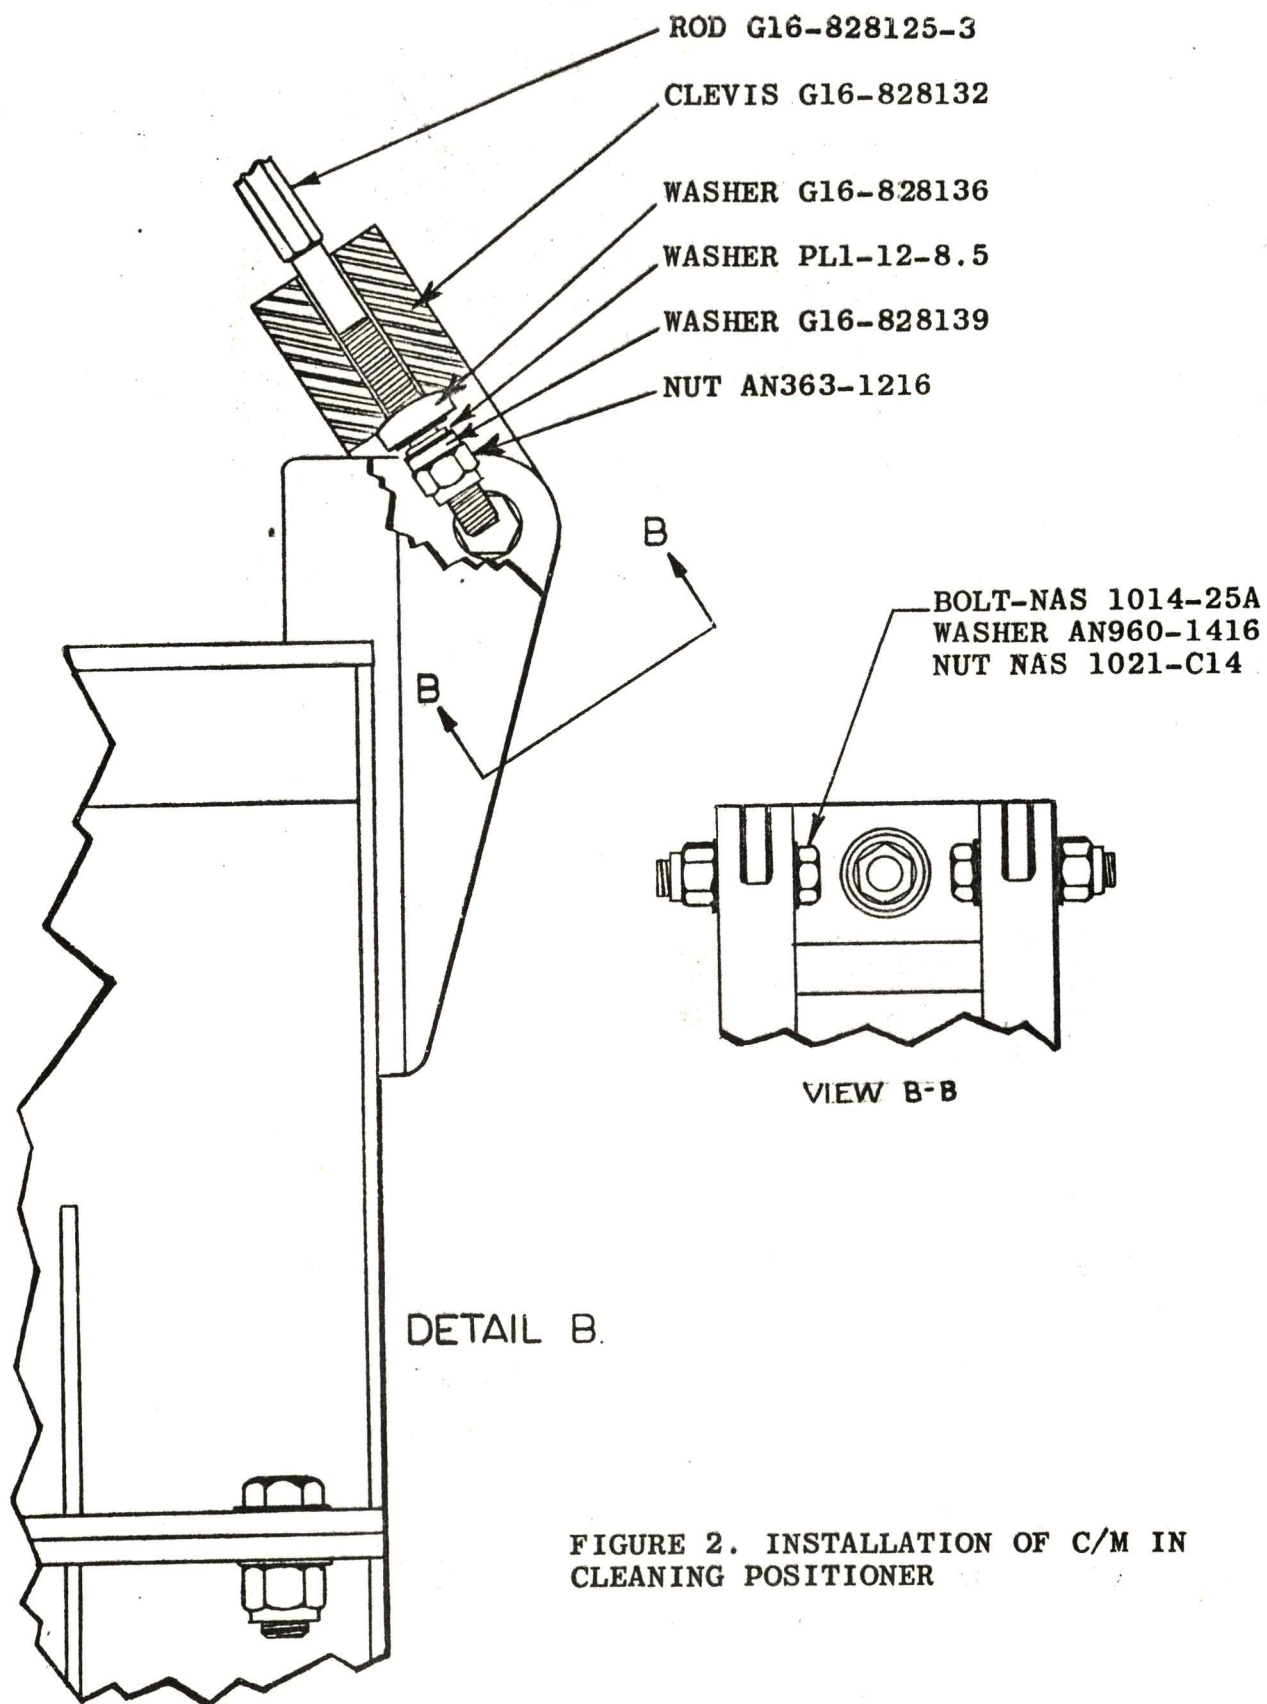

FIGURE 2. INSTALLATION OF C/M IN
- 1.1.15 INSERT THREE G16-828125-3 RODS INTO THREE G16-828132 CLEVISSES. SECURE THREE G16-828132 CLEVISSES (SEE FIGURE 2) USING THE FOLLOWING HARDWARE..
HARDWARE (SEE FIGURE 2)..
1.1.17 VERIFY THAT PRESCRIBED PRE-LOAD HAS BEEN INDUCED BY INSERTING PIN IN INSPECTION HOLES IN THE OUTER RING AND MOVING BACK AND FORTH. THE AN363-1216 NUTS SHOULD BE TIGHTENED UNTIL THE OUTER RING CANNOT BE MOVED. WHEN THIS POINT IS REACHED, DO NOT TIGHTEN FURTHER (SEE FIGURE 2). -----